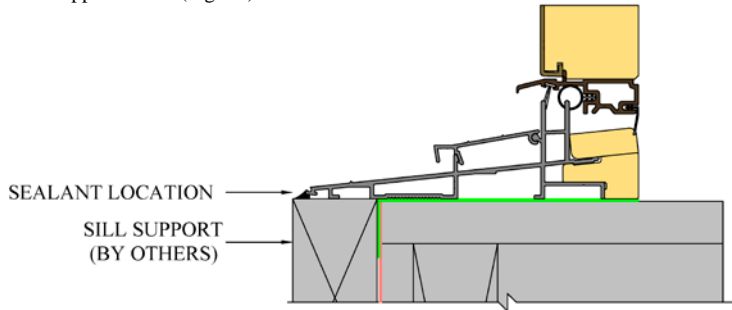

Fig. 23: Standard Door Sill
- B) Attach a sill support block beneath the sill. Apply a bead of sealant at the nose of the sill and support block. (Fig. 23)